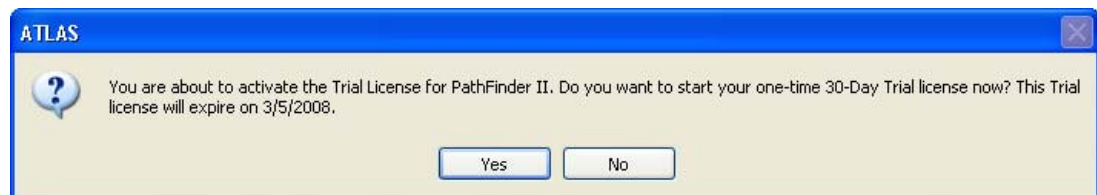

Figure 15 Trial License Dialog
1. Click **Register** under the **Trial** heading for the license you want to register. A dialog will be displayed similar to the one shown below (Figure 15).